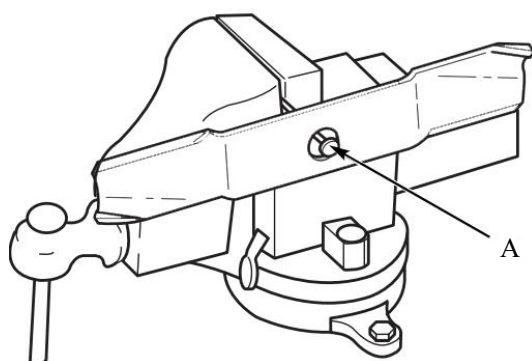

Fig. 14
- Refer to Fig. 14. Put the mower blade on a nail (A) in a vise and turn the mower blade to the horizontal position.